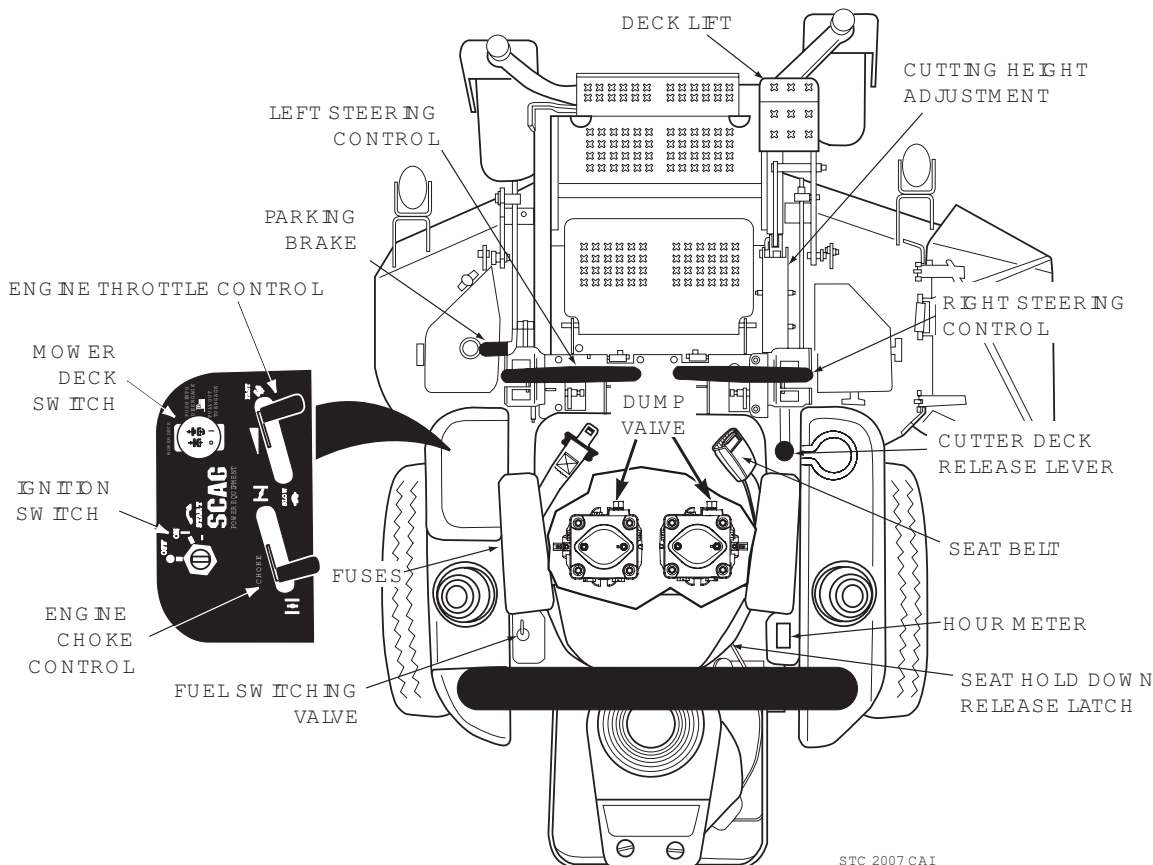

Figure 4-1. Controls and Instruments
1. Ignition Switch (Figure 4-1). The ignition switch is used to start the engine and has three positions; OFF, ON, and START.
2. Mower Deck Switch (Figure 4-1). Used to engage and disengage the mower drive system. Pulling up on the switch will engage the deck drive. Pushing down on the switch will disengage the deck drive.
3. Engine Choke Control (Figure 4-1). Used to start a cold engine.
4. Engine Throttle Control (Figure 4-1). Used to control the engine speed. Pushing the lever forward increases engine speed. Pulling the lever back decreases engine speed. Full back position is the IDLE position. Full forward is the cutting position.
5. Hourmeter (Figure 4-1). Indicates the number of hours the engine has been operated. It only operates when the engine is running. Has preset maintenance reminders for engine and hydraulic system oil changes. Will start flashing scheduled maintenance 2 hours before preset time and continue flashing until 2 hours after. Automatically resets.
6. Fuse Holders (Figure 4-1). Two 20-amp fuses protect the mower's electrical system. To replace fuses, pull fuse out of the socket and install a new fuse.
7. Left Steering Control (Figure 4-1). Used to control the mower's left wheel when traveling forward or reverse.
8. Right Steering Control (Figure 4-1). Used to control the mower's right wheel when traveling forward or reverse.
9. Parking Brake Control (Figure 4-1). Used to engage and disengage the parking brakes. Pull the lever back to engage the parking brakes. Push the lever forward to disengage the parking brakes.
10. Fuel Switching Valve (Figure 4-1). Located on the left side of the machine. Used to shut off fuel supply to the engine and change fuel supply between the fuel tanks. Rotate the valve counter clockwise to supply fuel from the tank on the left side only. Rotate the valve clockwise to supply fuel from the tank on the right side only.
12. Deck Lift Foot Lever (Figure 4-1). Used to raise and lower the cutter deck. Push full forward to lock in the transport position.
13. Cutting Height Adjustment (Figure 4-1). Used to set the cutter deck at the desired cutting height.
14. Deck Release Lever (Figure 4-1). Used to lock the cutter deck in the transport position. Push the foot pedal forward and pull back on the release lever to release the cutter deck for normal mowing.
15. Seat Belt (Figure 4-1). Used to secure the operator. Seat belt must be worn at all times when the ROPS is in the upright and locked position.
16. Seat Hold Down Release Latch (Figure 4-1). Located behind the seat. Used to secure the seat in the operator's position. Release the latch to gain access under the seat.
Do not travel forward over a curb. The mower will hang up on the curb. Raise the deck and travel backwards over the curb at a 45 degree angle. (See Figure 4-1 items 12-14 for cutter deck raising description.)